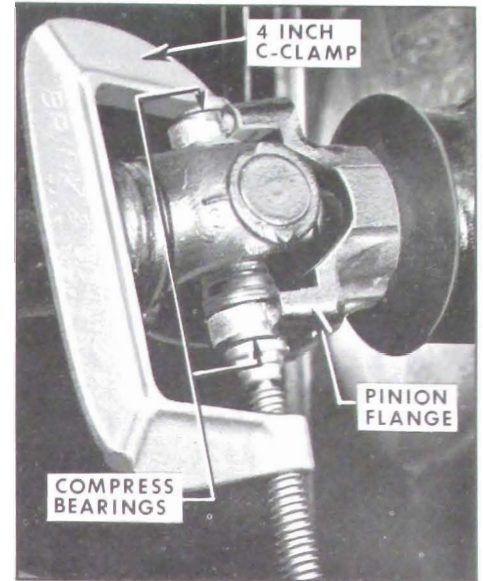

Figure 6-111—Using C-Clamp to Install a Universal Joint
5. Compress two loose bearings of rear universal joint toward each other using a 4 inch C-clamp. See Figure 6-111. This allows the bearings to seat in the pinion flange without the snap rings gouging the locating surfaces of the pinion flange while entering.